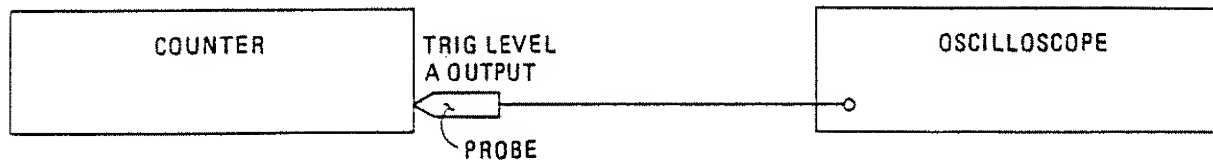

Fig. 6.15 Connections for Trigger Level PVP (I)
- (1) Connect the test equipment as shown in Figure 6.15.